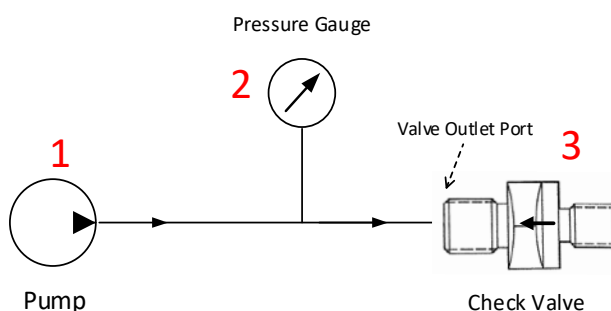

Figure 8: test setup Test Title 2 - 3(1)
(1) Internal Leakage:
- Test set up in accordance to Figure 8.